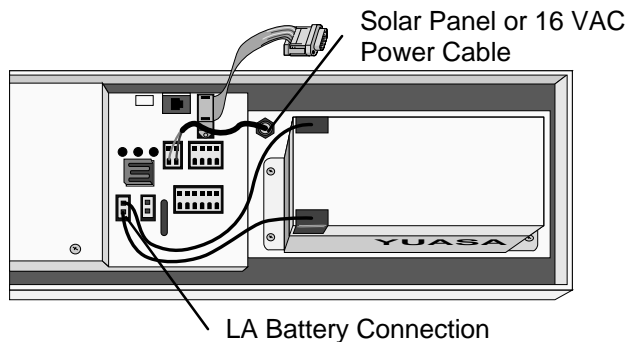

FIGURE 3.1-2. Rechargeable Power Mounting and Connections
- b) Sealed Rechargeable Battery Option: Install the kit as shown in Figure 3.1-2. An unregulated solar panel or 17 to 24 VAC must be used with the rechargeable battery at all times. In either case, power is routed through the Heyco fitting on